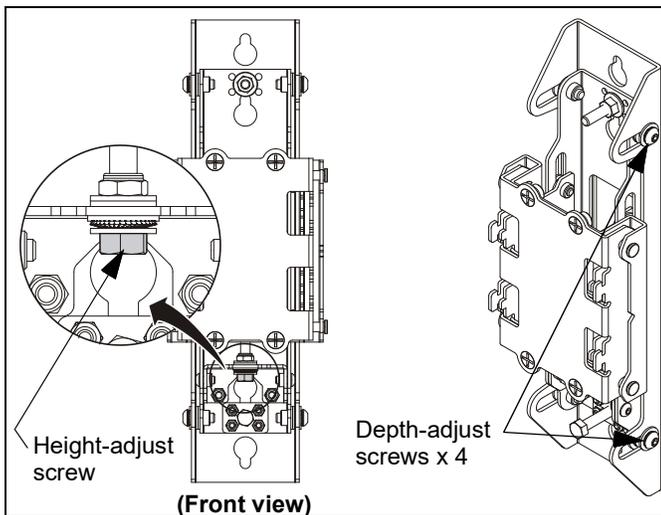

Figure 24
1. Adjust the height of the mounting rail via the wall upright, as necessary, to level the mounting rail on the wall. (See Figure 24)